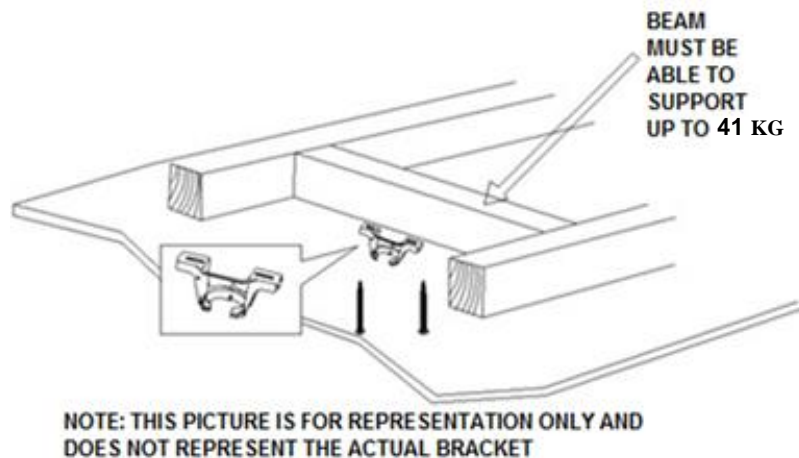

Fig. 2
- Install the hanging bracket to the ceiling joist or structure that is capable of carrying a load of at least 41 kg, with two long screws provided. Ensure at least 30mm of the screw is threaded into the support. (Fig. 2)